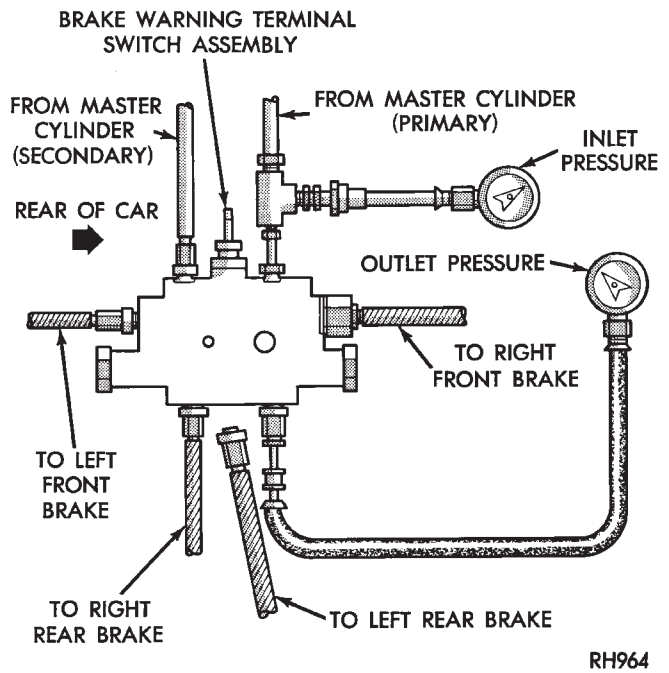

Fig. 5 Tube Connection for Left Rear Skidding
- (1) Install one gauge and (TEE) of set C-4007-A between brake line from the master cylinder primary port and the brake valve assembly.
- (2) Install the second gauge of set C-4007-A to the left rear brake outlet port (Fig. 5). An adapter tube, made up from a 7/16 x 24 tube nut, a short piece of brake tube and 3/8 x 24 tube nut. Will be required to connect the hose to the valve. Bleed the gauge and hose.
- (3) Have a helper exert pressure on the brake pedal. Hold pressure steady to get a reading on the valve inlet gauge and check the reading on the outlet gauge. If the inlet and outlet pressures do not agree with the values on the following chart, replace the valve.